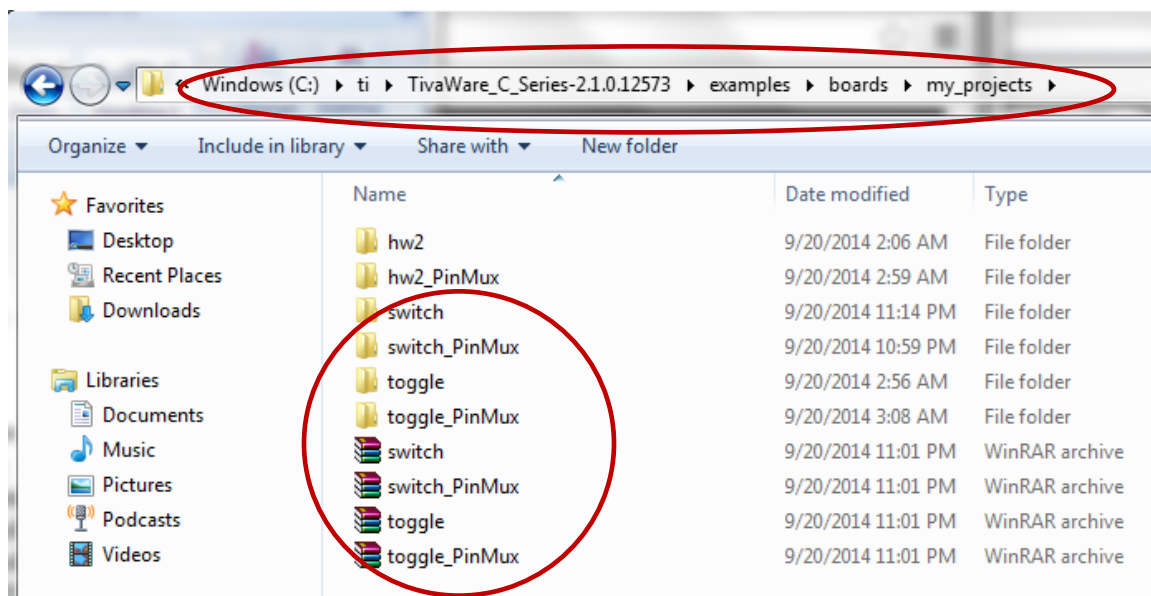

Figure 1
2. The downloaded sample projects must be saved in a specific directory in order to run correctly. It is assumed you already install the TivaWare library in C:\ti\TivaWare_C_Series-2.1.0.12573. First create a new directory “my_projects” (you may have already created it in Lab 2) under C:\ti\TivaWare_C_Series-2.1.0.12573\examples\boards and then save and uncompress the sample projects under “C:\ti\TivaWare_C_Series-2.1.0.12573\examples\boards\my_projects” as shown in Figure 1.